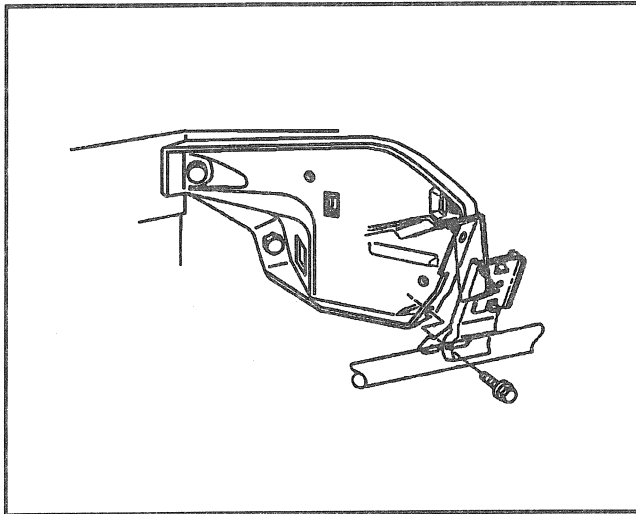

Figure 17—Center Support Screw
18. Center support screw (Figure 17).